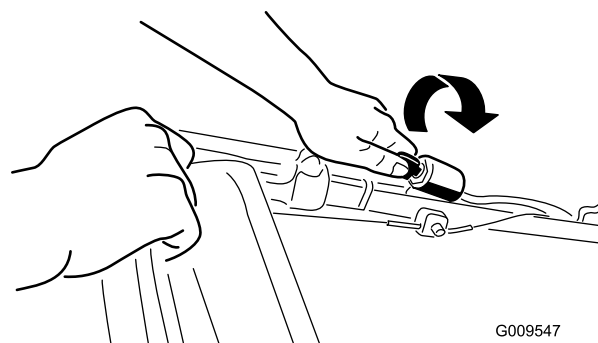
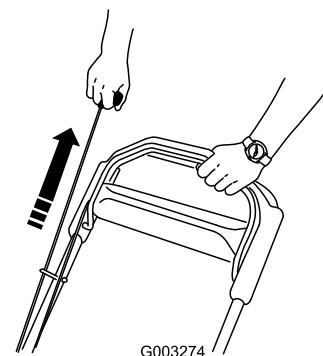

Figure 14
Figure 15
2. Turn the ignition key (Figure 14) or pull the recoil start handle (Figure 15).
**Note:** When you pull the recoil start handle, pull it lightly until you feel resistance, then pull it sharply (Figure 15). Allow the rope to return to the handle slowly.